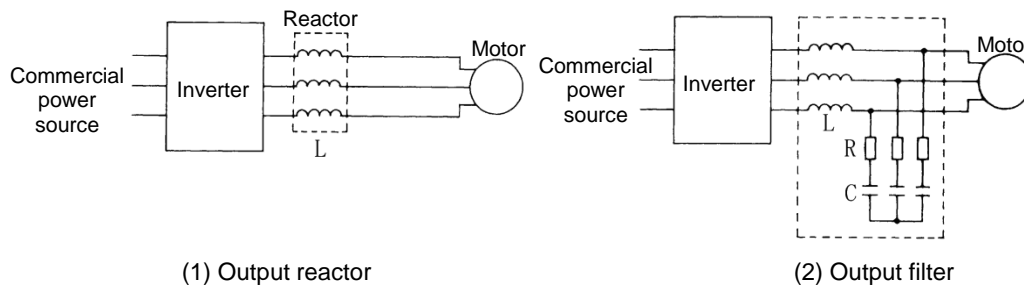

Figure C-3 Method to Suppress Surge Voltage
If wiring length is relatively short, the surge voltages can be suppressed by reducing the voltage rise time ( $dv/dt$ ) with the installation of an AC reactor on the output side of the inverter. Refer to Figure C-3 (1).
Installing a filter on the output side of the inverter allows the peak value of the motor terminal voltage to be reduced. Refer to Figure C-3 (2).